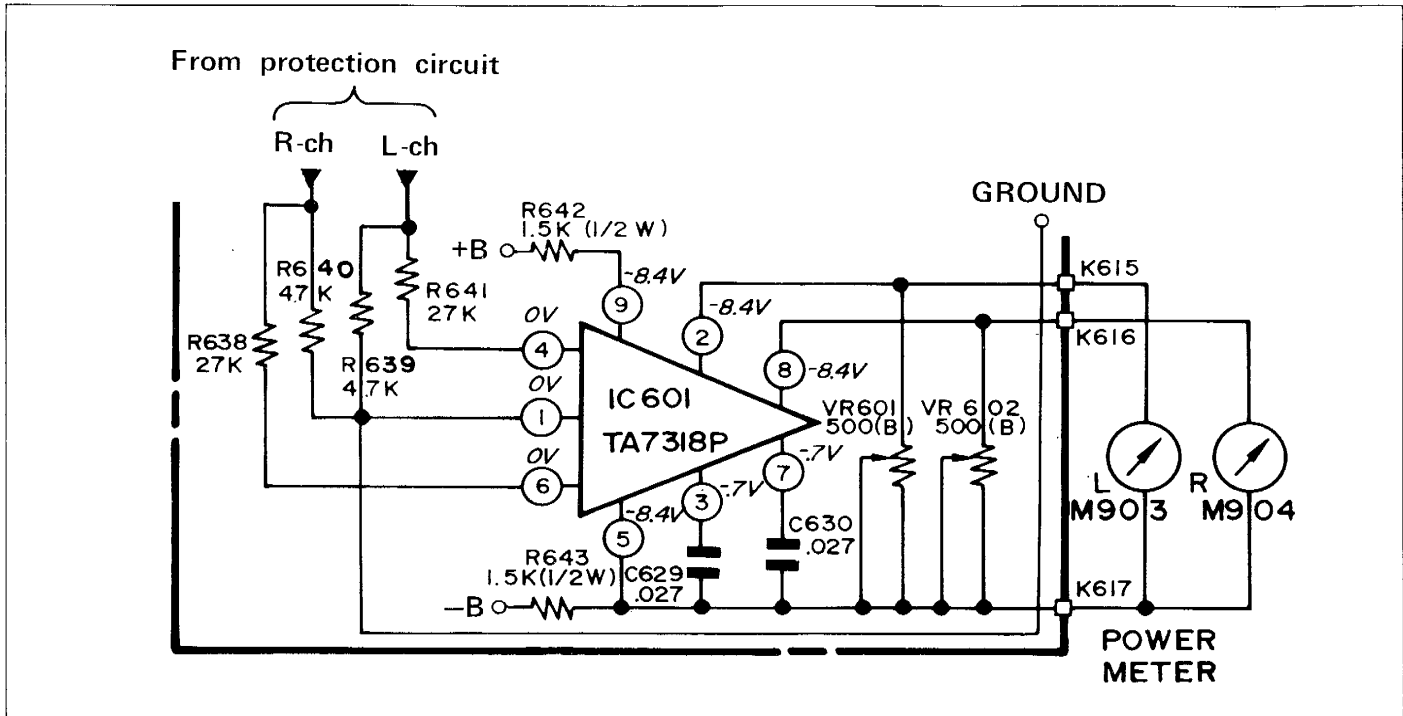

Figure 23-1 POWER METER DRIVE CIRCUIT
**POWER METER DRIVE CIRCUIT** (Refer to Figure 23-1 and 23-2)